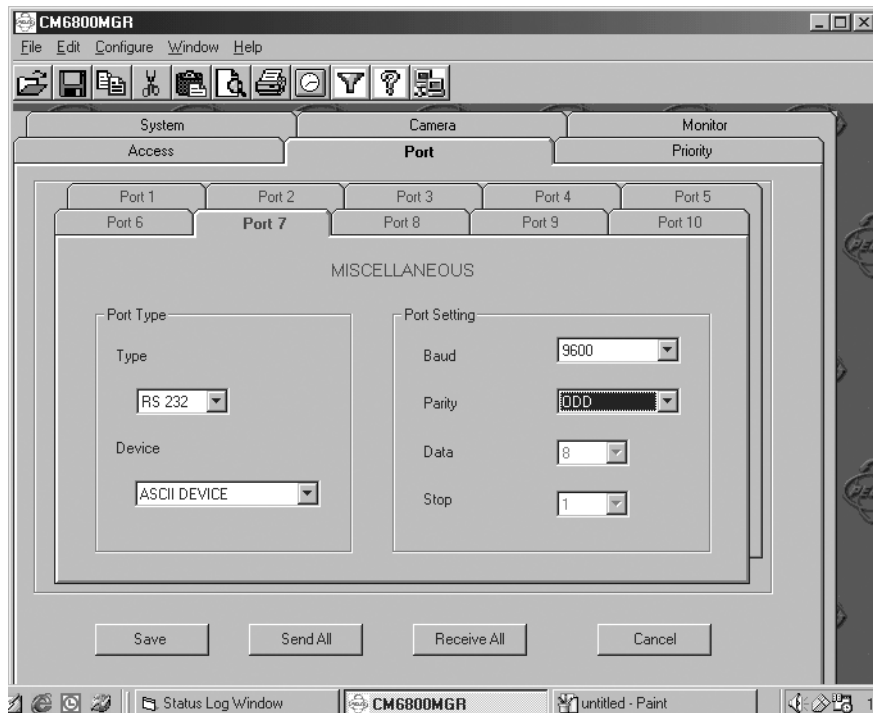

Figure 54. Manager Screen
- Ports 7 and 8 can be set to ASCII and RS-232 by using the CM6800 manager program (refer to Figure 54) or by using a CM6800 menu (refer to Figure 55).